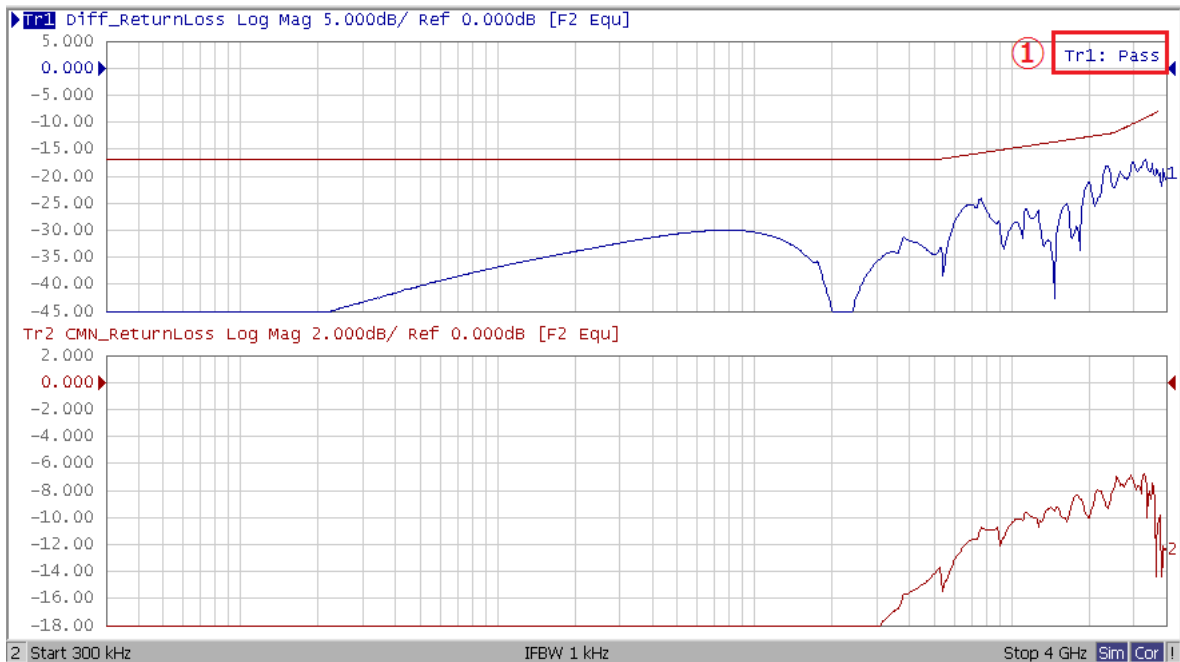

Figure 5-3 Differential Return Loss (SDD_{RX}) Example
8. Read the pass/fail sign on the trace (item 1 in Figure 5-3).